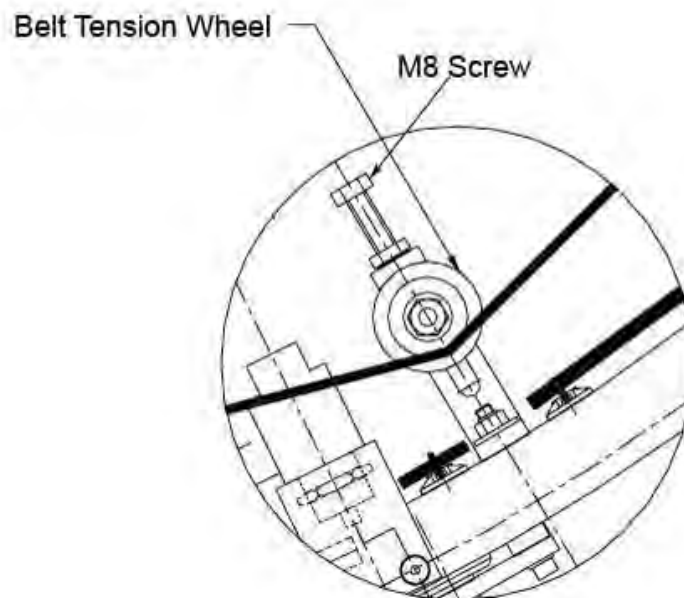
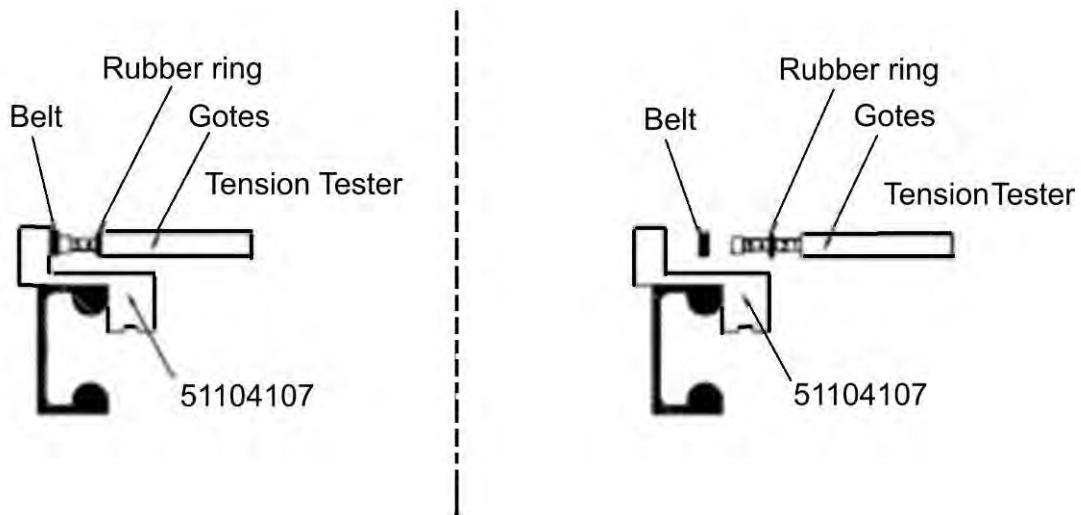

Figure 2: Sprocket Belt Tensioner
Figure 3: Use of Gates Tension Tester
2. Locate the measuring tool (see Special Tools item 1) in the area of section AA of Figure 1, and in accordance with Figure 3, as close to the brush as possible.
3. Place the Gates tension tester (see Special Tools item 2) on the centre line of the measuring tool, and push until the belt touches the measuring tool.
5. If outside limits, adjust the tension using the M8 screw (see Figure 2, Procedure A) and lock with the nut.